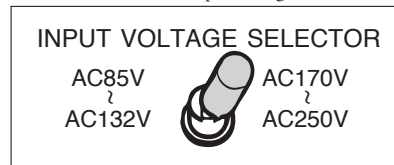

Fig. 2-10 INPUT VOLTAGE SELECTOR
4. Select the INPUT VOLTAGE SELECTOR switch in accordance with the input voltage range (Fig. 2-10).